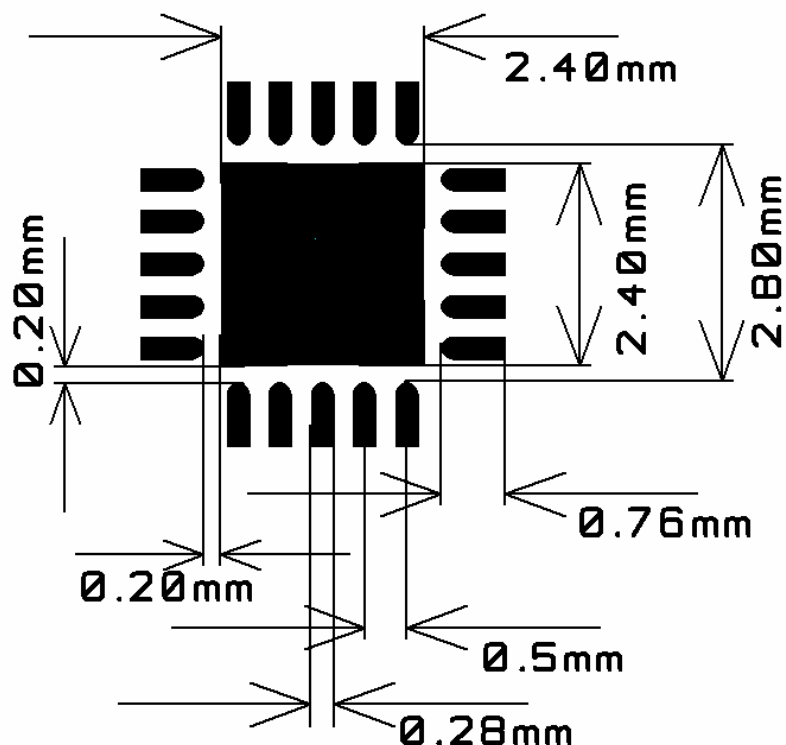

Figure 31: Recommended PCB Layout for QLP 20 Package
**Note:** Figure 31 is an illustration only and not to scale. There are five 10 mil via holes distributed symmetrically in the ground pad under the package. See also the CC1101EM reference designs ([2] and [3]).